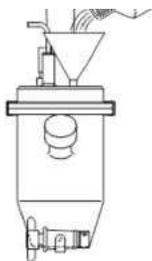
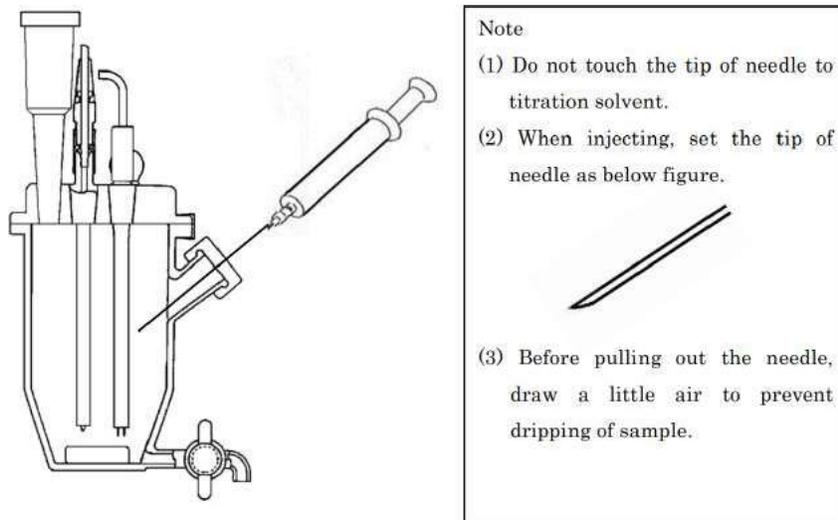

Fig.3.1 Preparation of the reagents
Fig.3.2 Injection of sample
- (1) Fill 50 mL of titration solvent into the titration cell as shown in Fig.3.1.
- (2) Start blanking to attain stable background.
- (3) Wash the syringe with sample.
- (4) Draw the sample into syringe and then weigh the syringe.
- (5) Inject sample from rubber septum of titration cell as shown in Fig.3.2.
- (6) Start titration. Measurement parameter is shown in Table 4.1.
- (7) Weigh the syringe again and then set the difference of weight to sample size.